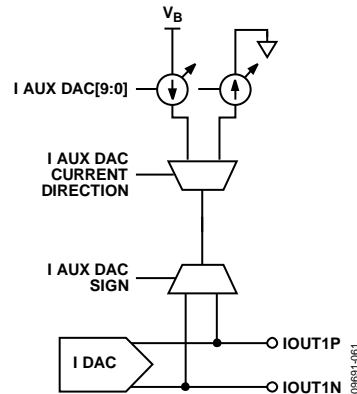

Figure 55. Auxiliary DAC Structure
The AD9146 has two auxiliary DACs: one associated with the I path and one associated with the Q path. These auxiliary DACs can be used to compensate for dc offsets in the transmitted signal. Each auxiliary DAC has a single-ended current that can sink or source current into either the positive (P) or negative (N) output of the associated transmit DAC. The auxiliary DAC structure is shown in Figure 55.